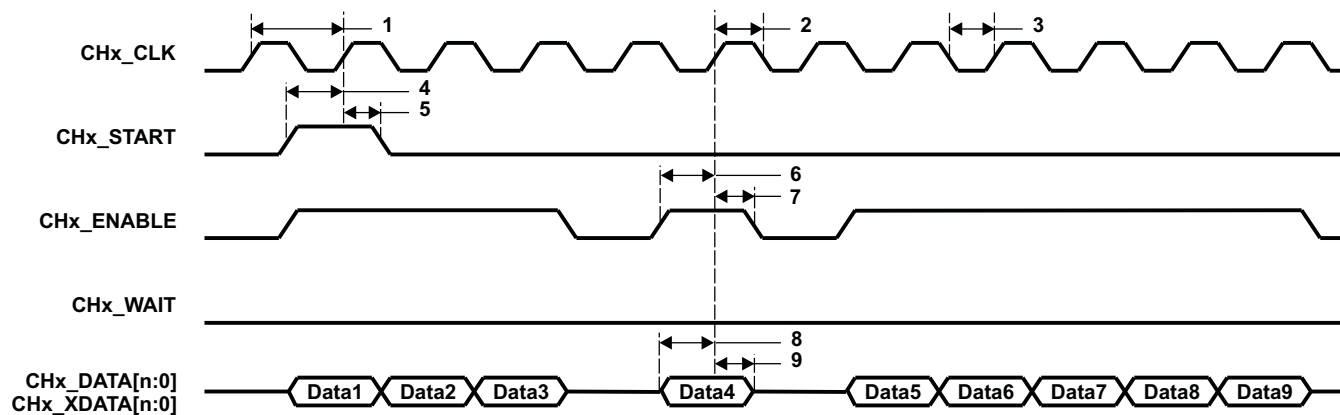
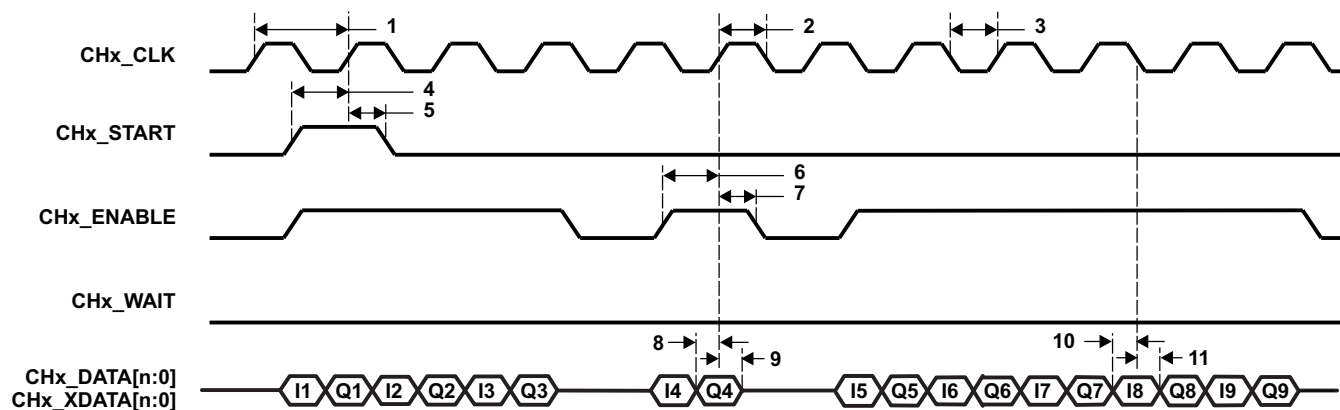
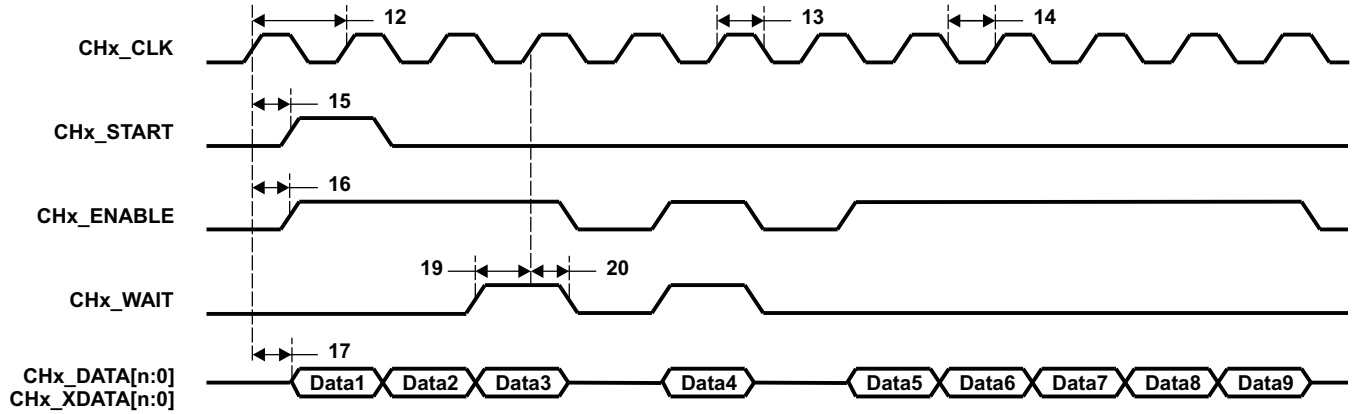
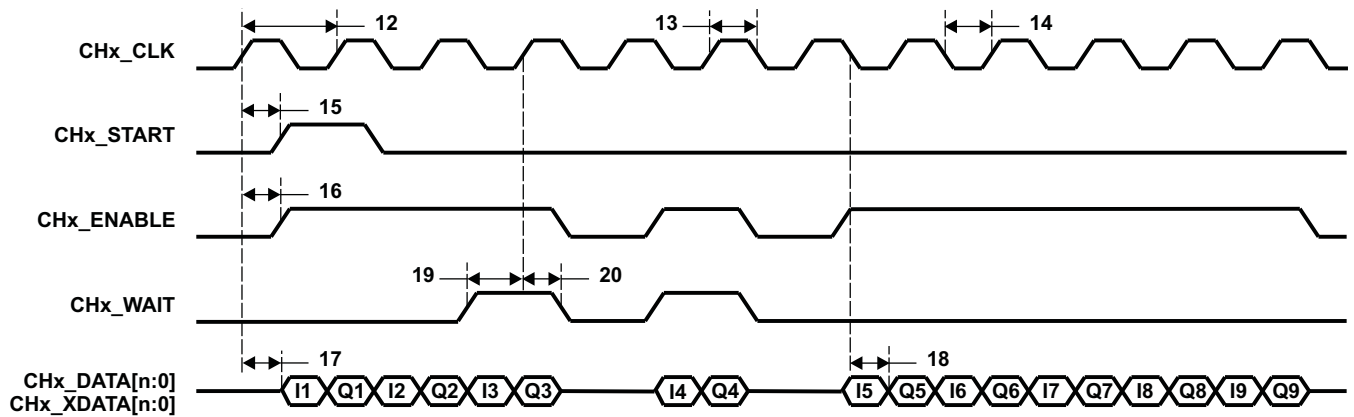

Figure 5-72. uPP Single Data Rate (SDR) Receive Timing
Figure 5-73. uPP Double Data Rate (DDR) Receive Timing
Figure 5-74. uPP Single Data Rate (SDR) Transmit Timing
Figure 5-75. uPP Double Data Rate (DDR) Transmit Timing
**Table 5-118. Timing Requirements for uPP (see Figure 5-72, Figure 5-73, Figure 5-74, Figure 5-75)(1)**